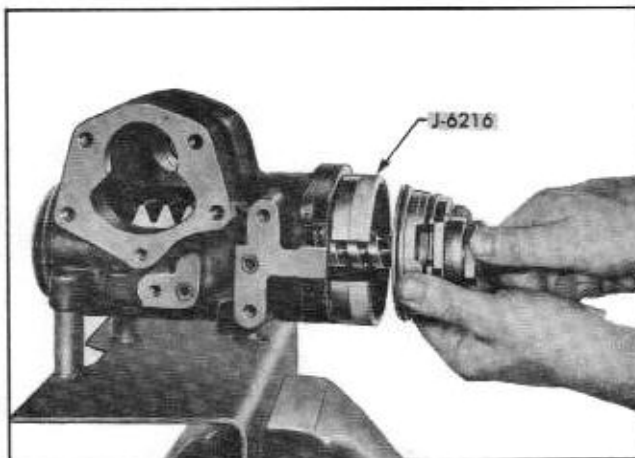

Fig. 9-58 Replacing Rack-Piston
1. Install ring compressor Tool J-6216 to compress piston rings and hold tightly against shoulder of housing and push rack-piston assembly into housing until piston rings are into cylinder bore (Fig. 9-58).